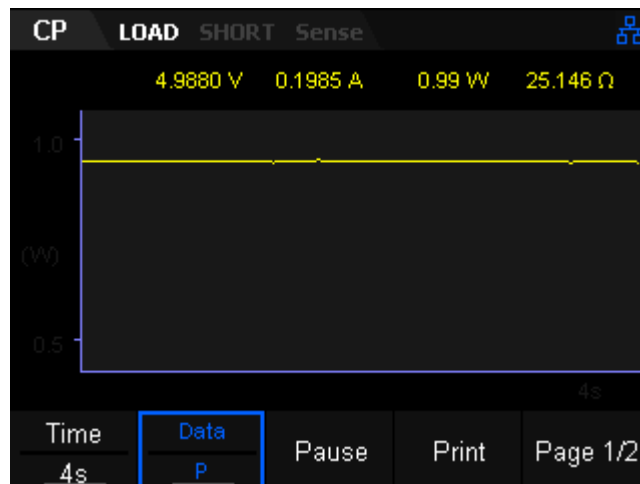

Figure 2-13 Waveform display interface of CP Mode
6. Press the **Display** key to enter the waveform display interface, as shown in Figure 2-13. By default, the power waveform is displayed. When the input voltage changes, the load will sink a constant power. Press the **Display** key again to exit the waveform display interface and return to the main interface of CP mode.